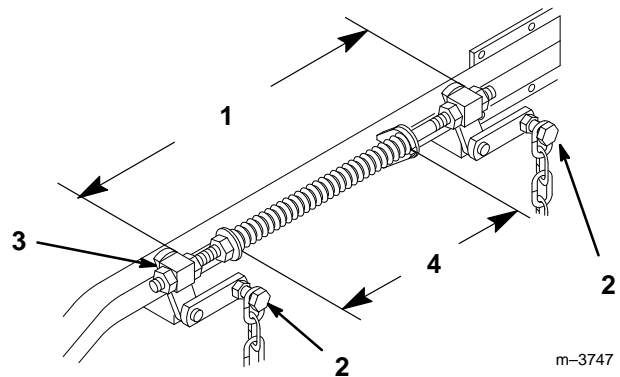

Figure 46
6. Loosen four (4) top chain bolts in slots. Check the length of the rod/swivel assemblies. Distance from outside of rear swivel to outside of front swivel should be 20-1/4" (514 mm) (Fig. 46). Make sure that all four swivels move freely in holes.
8. Lift up on four (4) top chain attachment bolts, in the slots, to take slack out of chains and tighten flange lock nuts. (Deck is still supported by two rear and one front blocks under mower)
13. Springs are compressed so the distance between the two large washers should be 11-1/2" (292 mm) (Fig. 46).
14. Adjust by turning nut in front of each spring (Fig. 46). (clockwise will shorten spring, counter-clockwise will lengthen spring)